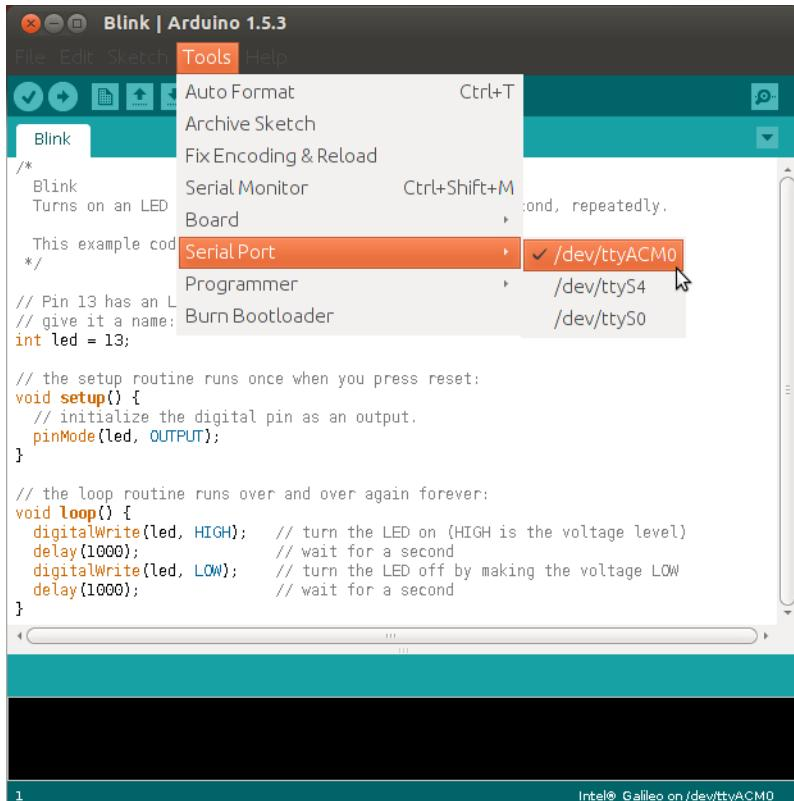

Figure F-1. Choose the serial port labeled */dev/ttypACM0*.
9. Within the IDE, choose `/dev/ttypACM0` under Tools → Serial Port before uploading your sketch. (Figure F-1)